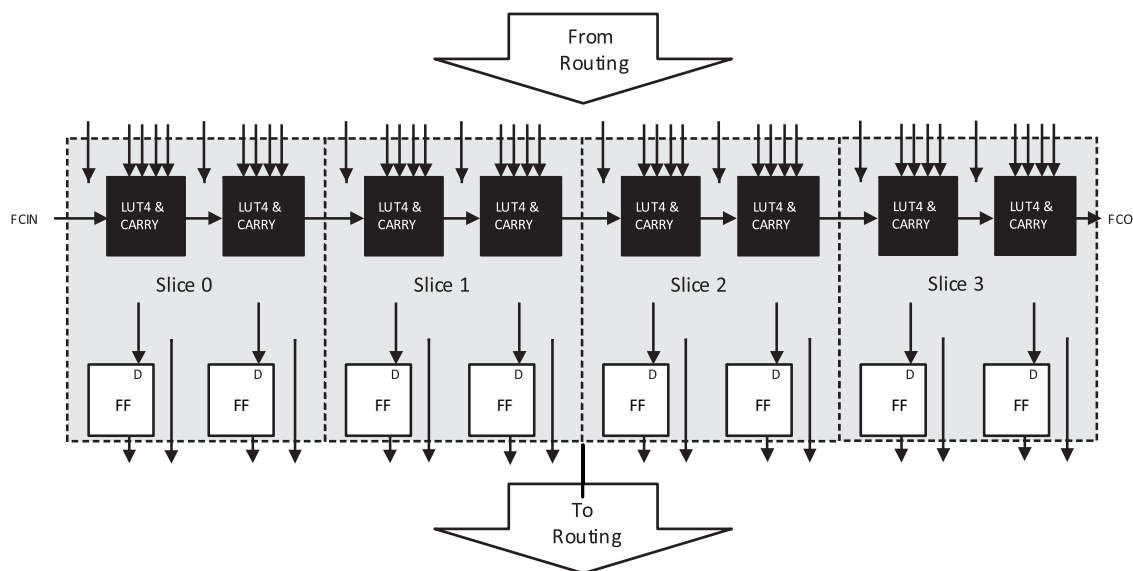

Figure 2.2. PFU Block Diagram
The core of the MachXO4 RoT device consists of PFU blocks, which can be programmed to perform logic, arithmetic, distributed RAM and distributed ROM functions. Each PFU block consists of four interconnected slices numbered 0 to 3 as shown in Figure 2.2. Each slice contains two LUTs and two registers. There are 53 inputs and 25 outputs associated with each PFU block.
1. See Figure 2.2 for connection details.